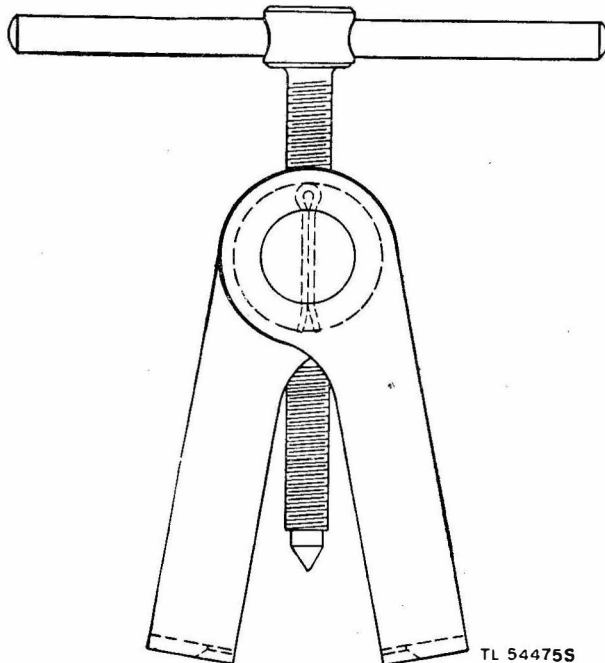
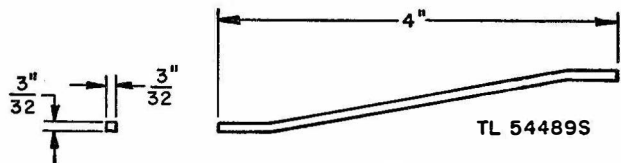
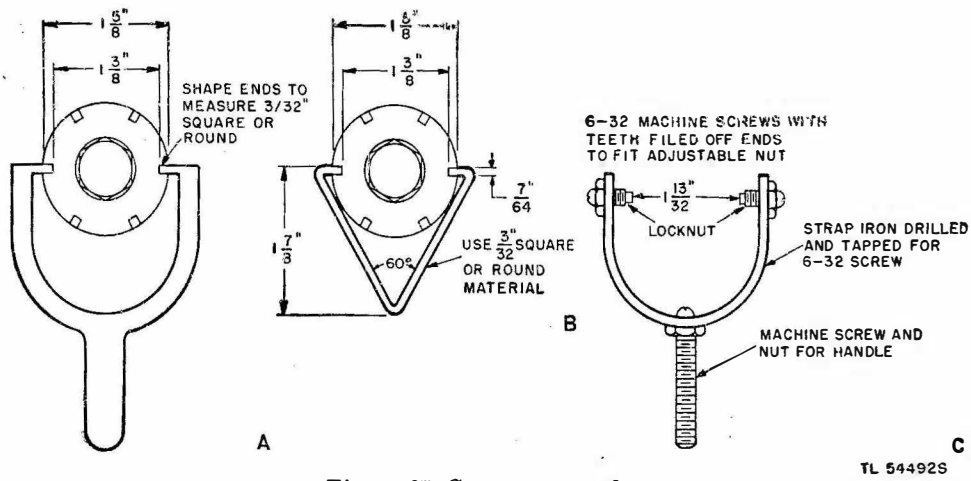

Figure 35. Bearing puller.
Figure 36. No. 76289 tool.
Figure 37. Spanner wrenches.
a. Repair procedures require the use of the maintenance tools described in chapter 3, plus a few additional tools, which usually are available at field maintenance and repair shops. Among these special tools is the No. 84020 bearing puller shown in figure 35. The bearing puller is designed for removing all types of armature bearings. Also among the special tools needed is the No. 76289 tool (fig. 36), which is used to hold the main-shaft friction clutch when the locknut is tightened against the clutch, and a spanner wrench (fig. 37), which is used to hold the adjustable clutch disk when the locknut is tightened against it. There also should be available a set of various-sized drills of either carbon or high speed steel, a set of